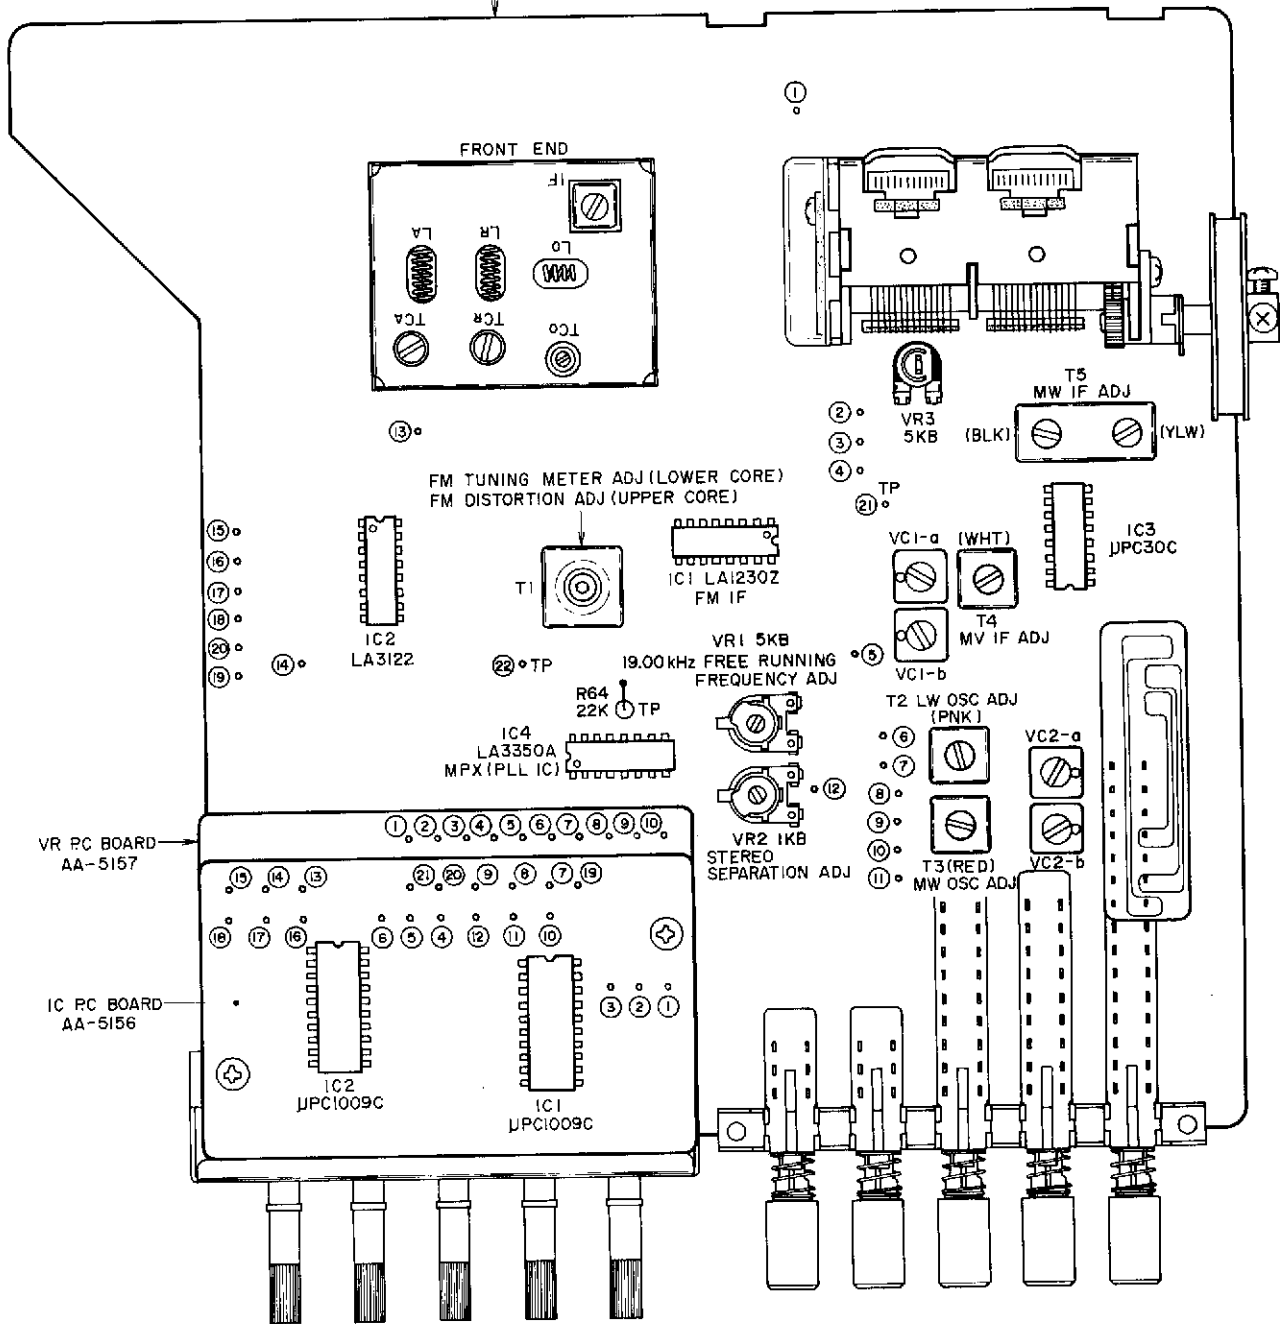

Fig. 10 Multi Function P.C Board AA-5159A
## 1. FM SECTION ADJUSTMENT (Refer to Fig. 10)
2. LW SECTION ADJUSTMENT (Refer to Figs. 10 and 11)
### 3. MW SECTION ADJUSTMENT (Refer to Figs. 10 and 11)